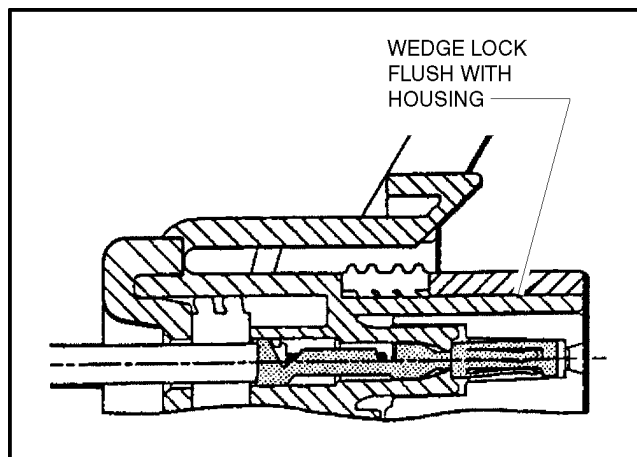

Figure 7-15. Connector Assembly Figure 4
4. Slide the wedge lock into the housing until it is flush with the housing (See Figure 7-15.)